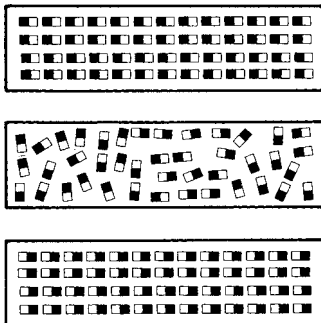

Figure 8-19 Hysteresis losses due to alignment of domains (or molecules) in an iron core.
2. *Hysteresis losses*: These are due to the properties of the iron core. Iron is slow to change polarity. The delay is known as hysteresis, or slowness to change properties (see Fig. 8-19). The magnetic domains (or molecules) of the iron core are facing in one direction. The domains (or molecules) are mixed in the middle illustration. This is in response to a change in magnetic fields. In the last illustration, the domains (or molecules) are lined up in the opposite direction. This happens when the magnetizing force of ac is at its peak. Hysteresis losses in